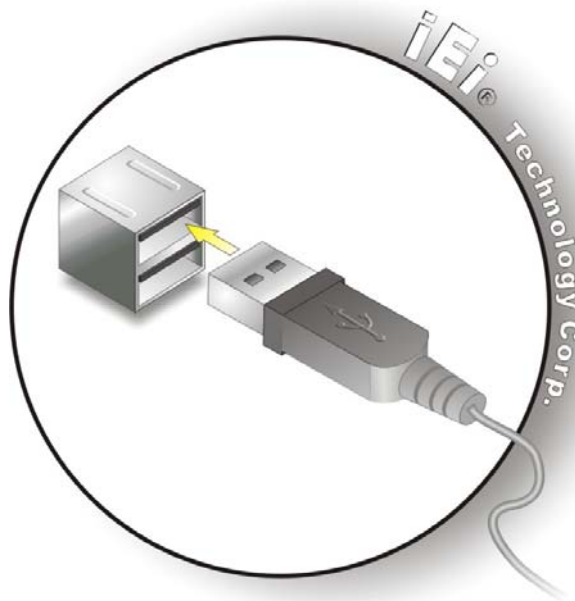

Figure 4-21: USB Connector
Step 2: **Insert a USB Series "A" plug.** Insert the USB Series "A" plug of a device into the USB Series "A" receptacle on the external peripheral interface. See **Figure 4-21**.